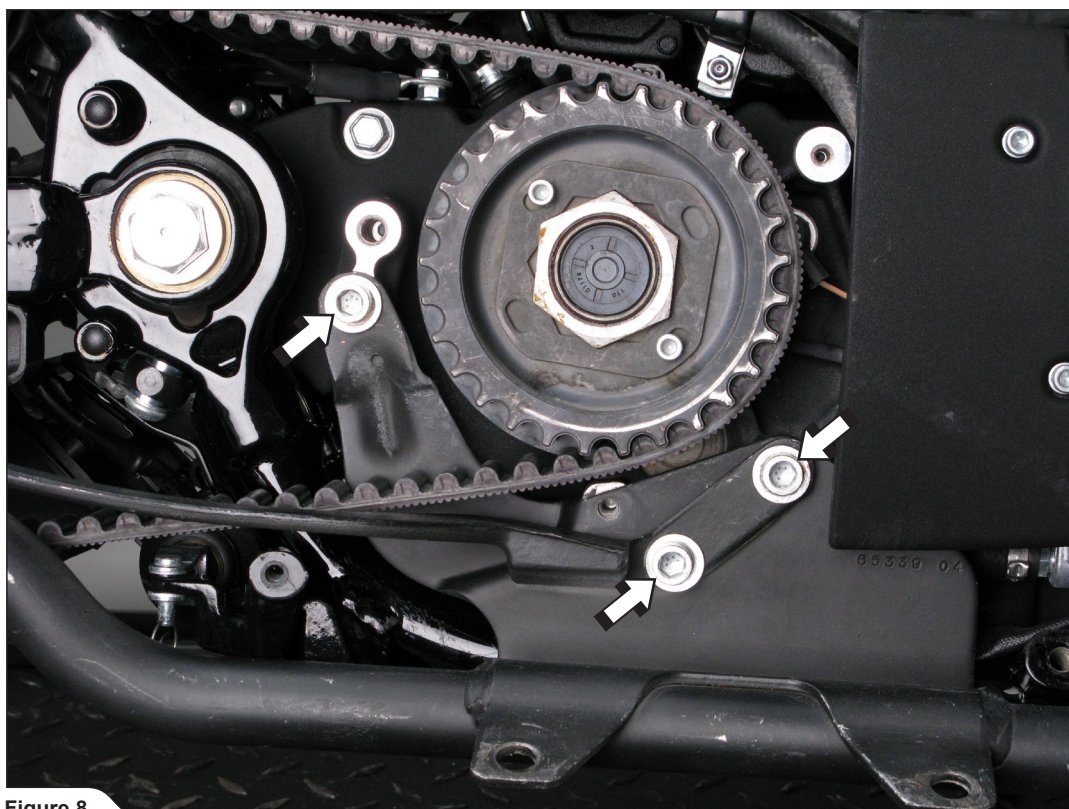

Figure 8
9. Unscrew the three marked bolts and remove the original mufflers' bracket off the motorcycle (Figure 8).